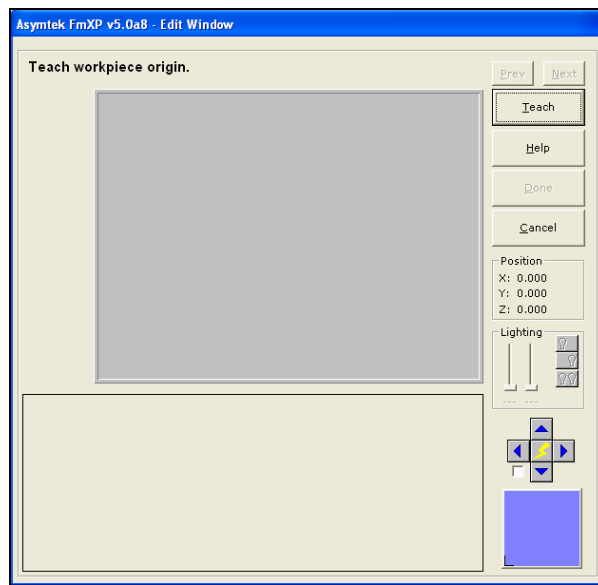

Figure 3-4 Teach Workpiece Origin
- ▶ A Teach Window opens asking you to “Teach Workpiece Origin.” See Figure 3-4.